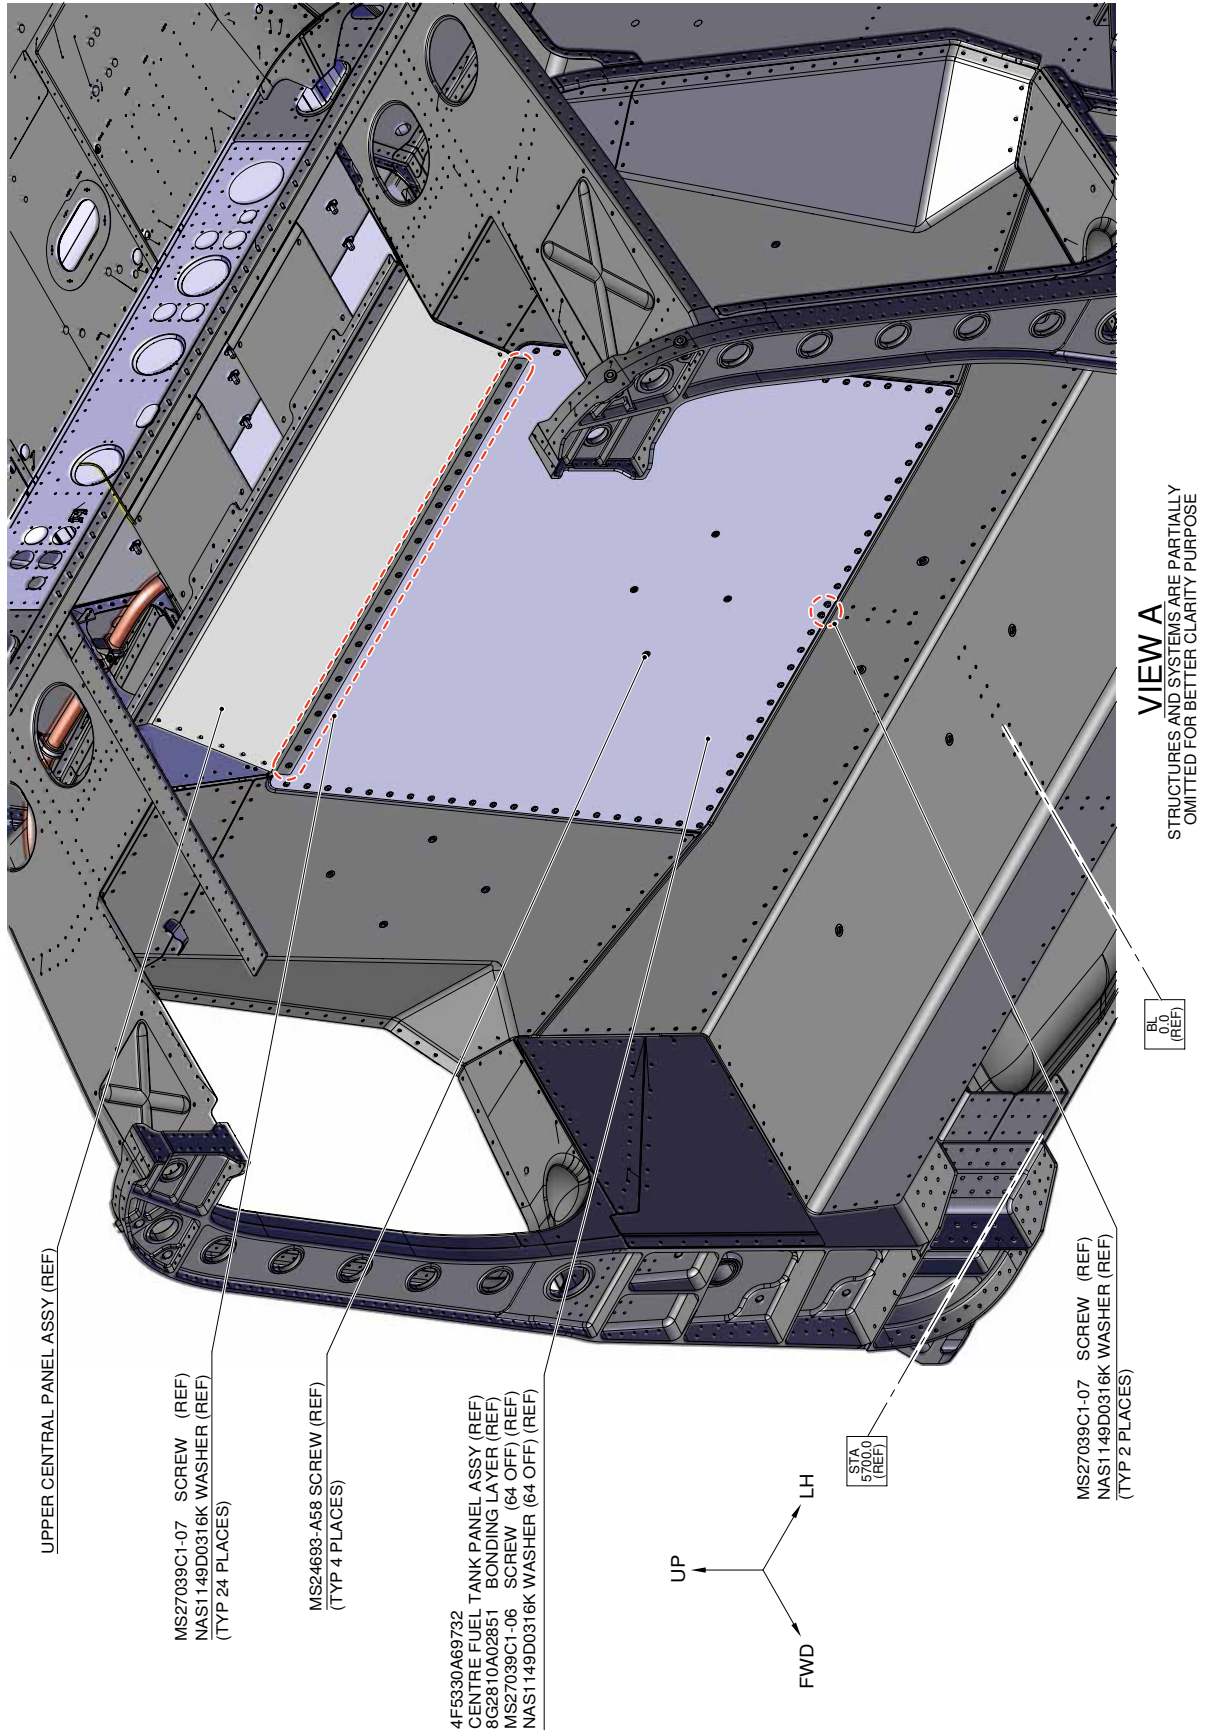

Figure 2
- 3.1 With reference to Figure 2 View A, remove n°4 screws P/N MS24693-A58.
- 3.2 In accordance with AMP DM 89-A-52-43-10-00A-520A-A and with reference to Figure 2 View A, remove the centre fuel tank panel assy P/N 4F5330A69732 (229E) and the bonding layer P/N 8G2810A02851 with the related hardware. Retain for later re-use.